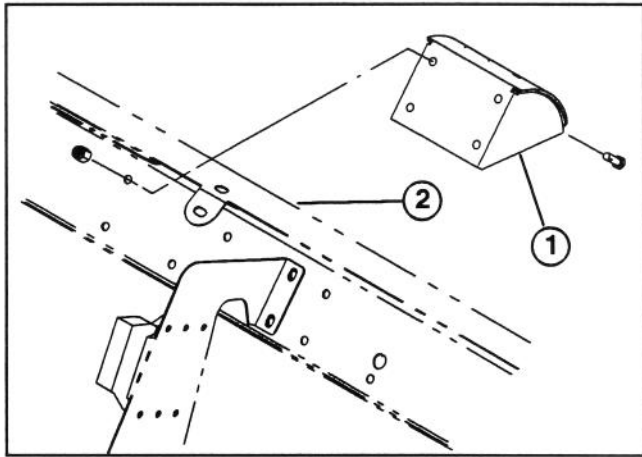

Figure 1
2. Remove (15) screws and washers securing front hood to vehicle frame and remove hood.
3. Mount switch bracket to dash panel with (4) 1/4-20 x 5/8" lg. capscrews and locknuts (Fig. 1). There are (3) sets of mounting holes in vehicle dash panel. Use available set, depending on what other optional equipment has been installed.